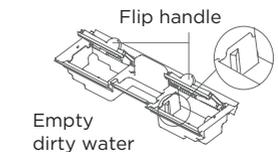

**FIGURE 7-3**
**Assembly:** After cleaning, put dirty water tank into the floorhead slot and put floorhead cover on. Press both sides of brushroll cover at the same time. The button pops up to lock upper cover until a “click” sound is heard (Figure 7-3).